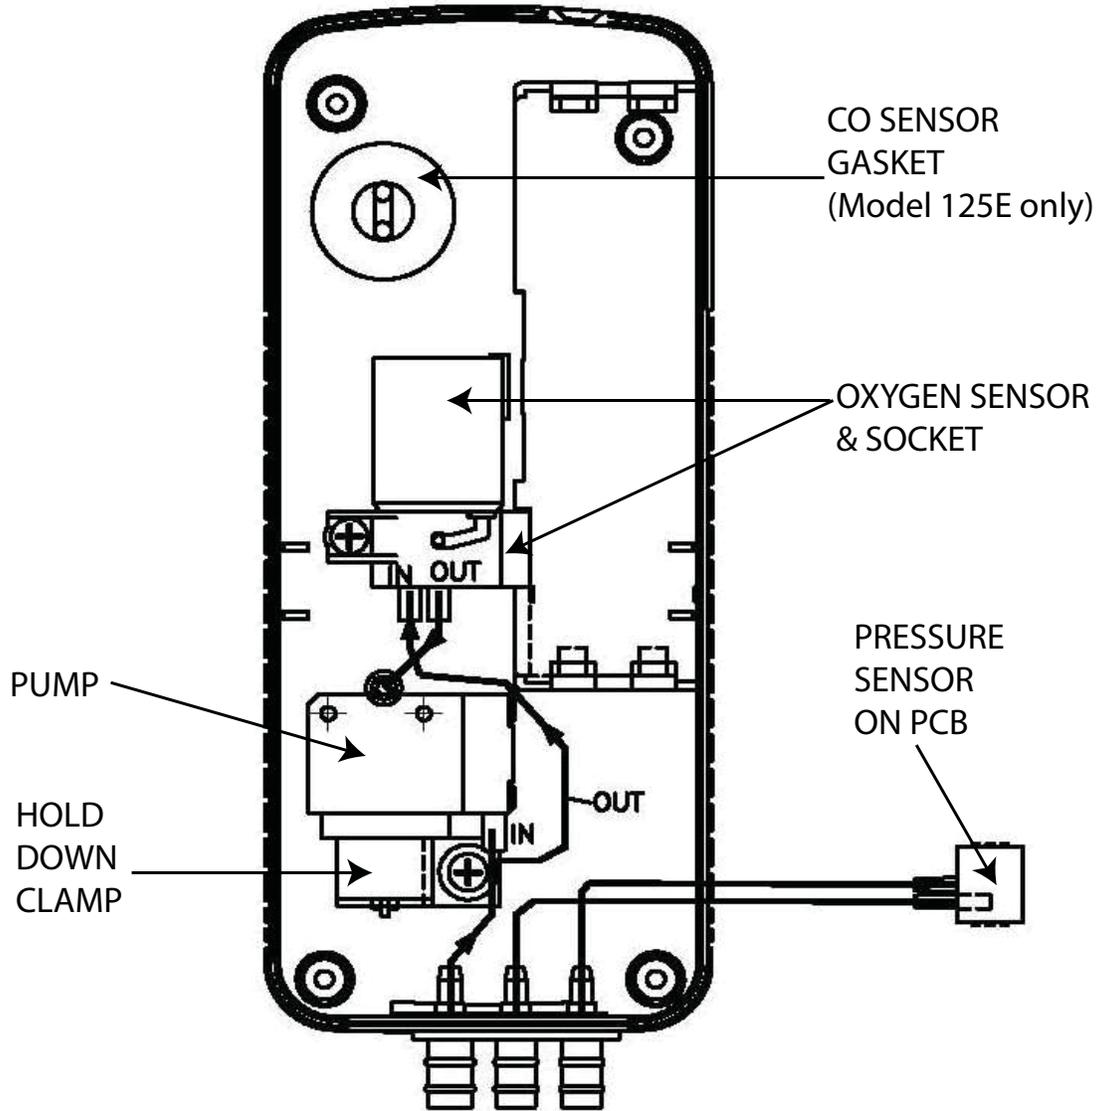

Figure 5-4. Case Components & Plumbing Schematic
2. Slip off the oxygen sensor's electrical connector from the circuit board. Then push down; twist counterclockwise; then pull the oxygen sensor out of its socket (see Figure 5-4).
3. Unscrew the pump's hold down clamp and remove it from the pump (see Figure 5-4). Make note of how the pump wiring is routed.